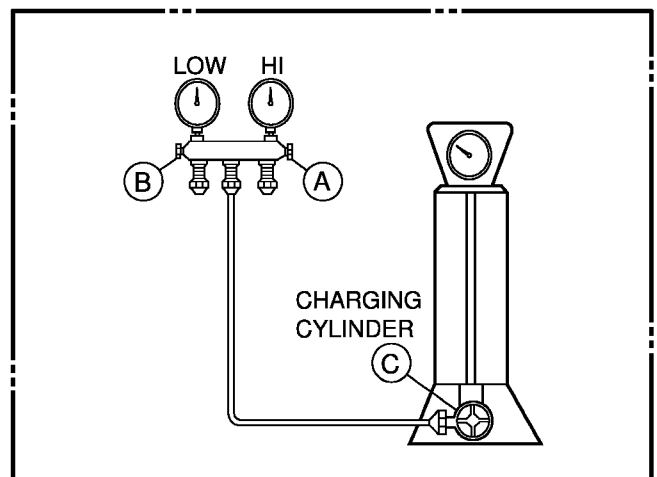

Figure 31B-Charging
- 2) Connect the charging cylinder as shown in Figure 31B.